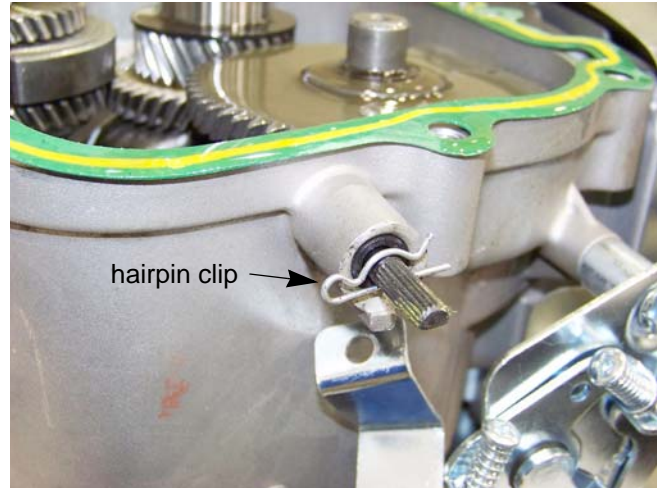

Figure 4.27
4. Remove the hairpin clip from the governor shaft. See Figure 4.27.